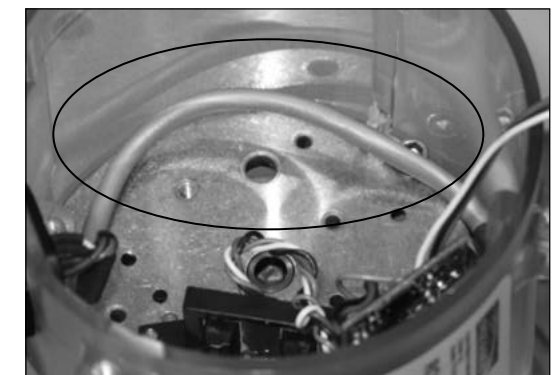

Figure 13.7 -Gray wire against wall of the cover
4. Ensure the gray wire is against the wall of the cover as shown in Figure 13.7.